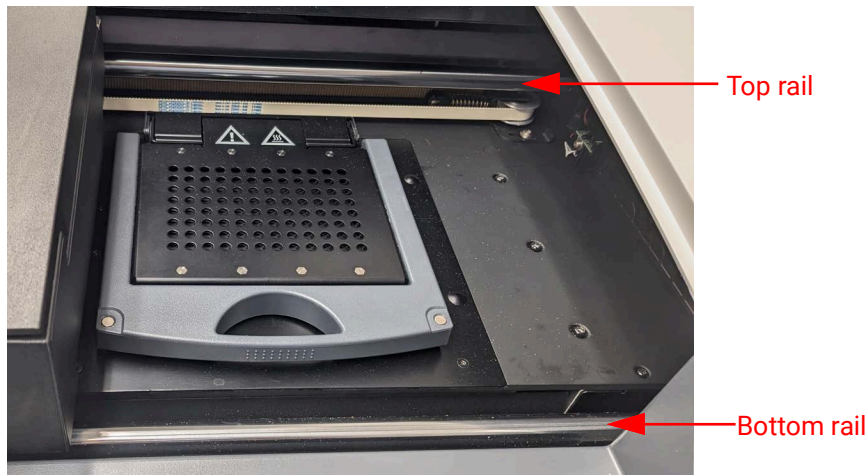
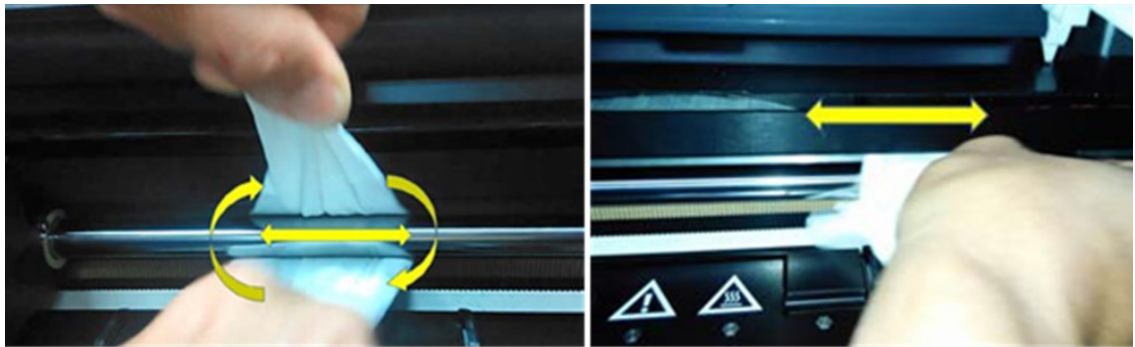

Figure 2 Locations of top and bottom OSM rails.
Figure 3 Clean all sides of the rail (left panel). Clean full length of the rail (right panel).
- 3 Using a disposable laboratory wipe moistened with 70% isopropyl alcohol, clean all exposed surfaces of the top and bottom rails. Make sure to clean the full length of the rails on all sides (top, bottom, front, and rear). Refer to Figure 2 and Figure 3.